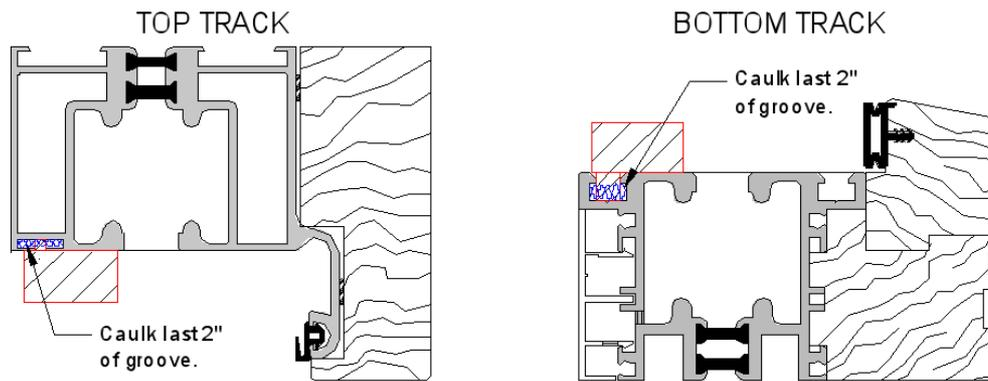

FIG 3.
- Caulk ends of both jambs as shown in Fig's 1 thru 3 depicted by squiggly lines (FIG 3 on next page). Pre screw in 2 (#10 x 4" FH Screw) into top and bottom pre-drilled holes on both jambs for ease of installation.
- Caulk the last 2" of the outside groove of both top and bottom tracks before inserting jambs, as shown in FIG 3.
- Each jamb has a jamb insert top and bottom; the thicker Insert is at the bottom of the jamb and will be inserted into the outside groove of the bottom track. The thinner jamb insert is at the top of the jamb and will insert into the outside groove of the top track (See FIG. 3).